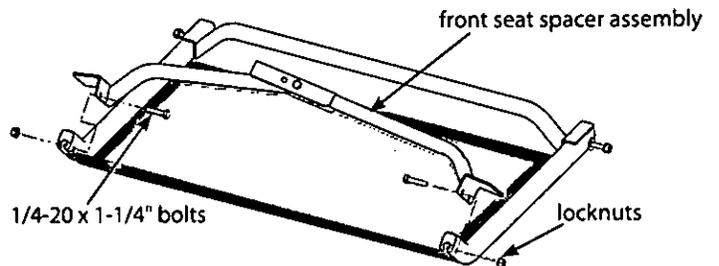
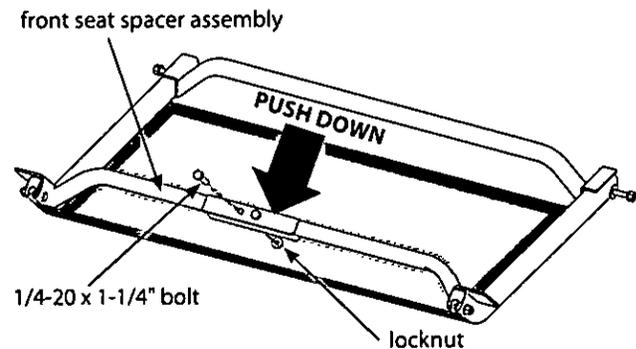

Figure 6b
Figure 6c
c. Spread the front (bent end) of fabric rail mounts apart. Take the front seat spacer assembly (410112) and position angle brackets near holes in fabric rail mounts. SEE FIGURE 6b. Push the front seat spacer assembly downward into its widest position to spread seat apart and hold in place. Insert (2) provided 1/4-20 x 1-1/4" bolts through the fabric rail mounts and the angle brackets of front seat spacer assembly; secure with locknuts. While continuing to hold seat spacer in place, re-insert (1) provided 1/4-20 x 1-1/4" bolt through the locking hole of front seat spacer assembly and secure with locknut. SEE FIGURE 6c. Be sure that all four angle brackets (two on rear seat spacer and two on front seat spacer) are fully cradling the fabric rail mounts. This locking action is a tight fit by design in order to apply the correct amount of tension on the mesh seat. **You must now securely tighten the (3) 1/4-20 x 1-1/4" bolts and locknuts on the front seat spacer assembly.**